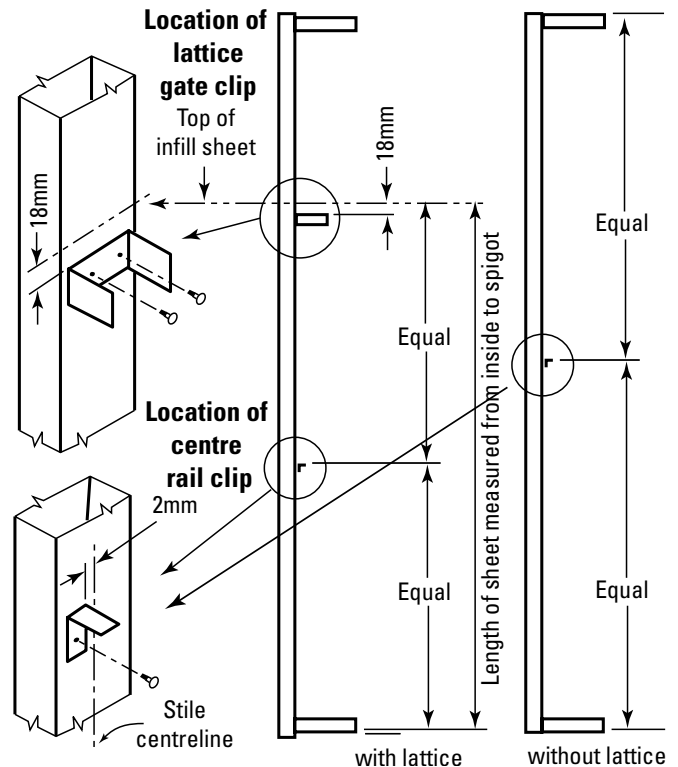

Figure 23.3
- 3) Using tin snips, notch the four corners. The top and bottom notches are different. (Figure 23.3).
3. If your gate includes a 'Plus Option' (lattice or slats), mark the position of the two lattice gate clips. Fasten the clips to the stiles using two hex. head screws #10-16x16 for each (Figure 23.3).
4. Mark the position of the two centre rail clips, with the inner edge of the clip 2mm from the centreline of the stile, and fasten them to the stiles using a hex. head screw #10-16 x 16 for each (Figure 23.3).